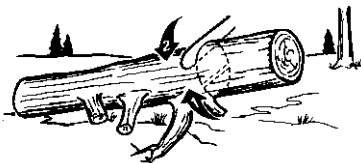

Fig.23
2. Log supported on 1 end: First, cut from bottom (underbuck) 1/3 diameter of log to avoid splintering. Second, cut from above (overbuck) to meet first cut and avoid pinching (Figure 23).